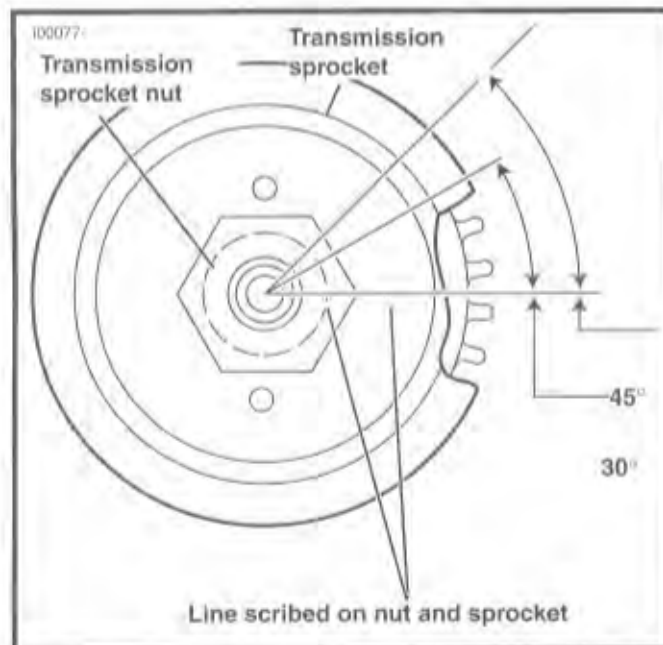

Figure 6-54. Transmission Sprocket Nut Final Tightening Procedure
- b. See Figure 6-54. Scribe a line on the transmission sprocket nut and continue the line on the transmission sprocket as shown.
- e. If lockplate will not align with holes, tighten nut to 45° maximum as shown in Figure 6-54.